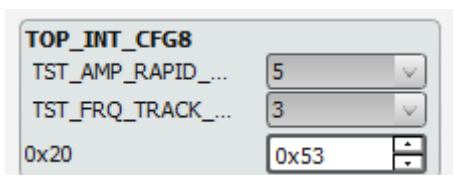

Figure 24: TOP_INT_CFG8
2. Set the Rapid Stop threshold at which DA7280 stops driving while braking in the field **TST_AMP_RAPID_STOP_LIM** in the register **TOP_INT_CFG8** (Figure 24). This register is in the TOP tab of the GUI or can be found using the search box in the GUI at the bottom of the screen. The rapid stop threshold mechanism is based on BEMF sensing and a higher register value corresponds to a higher BEMF voltage threshold.